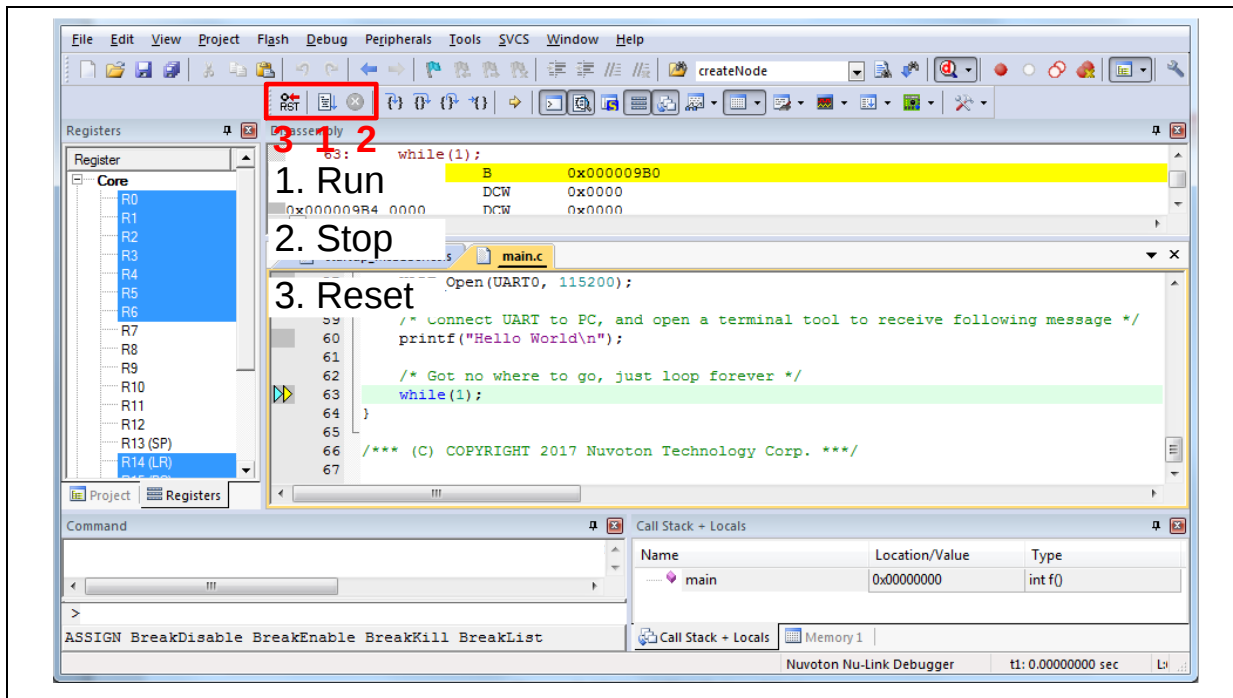

Figure 5-13 Keil MDK Debug Mode
4. Figure 5-13 shows the debug mode under Keil MDK. Click **"Run"** and the debug message will